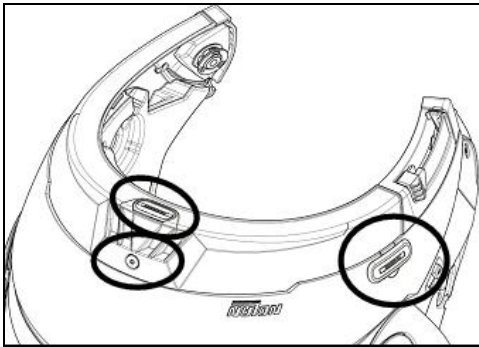

Fig. 6
- Remove the helmet edge gasket using the special tool (Fig. 6).
- Remove the "N-Com" plugs found at the back of the shell gasket and on the left side of the helmet (Fig. 6).